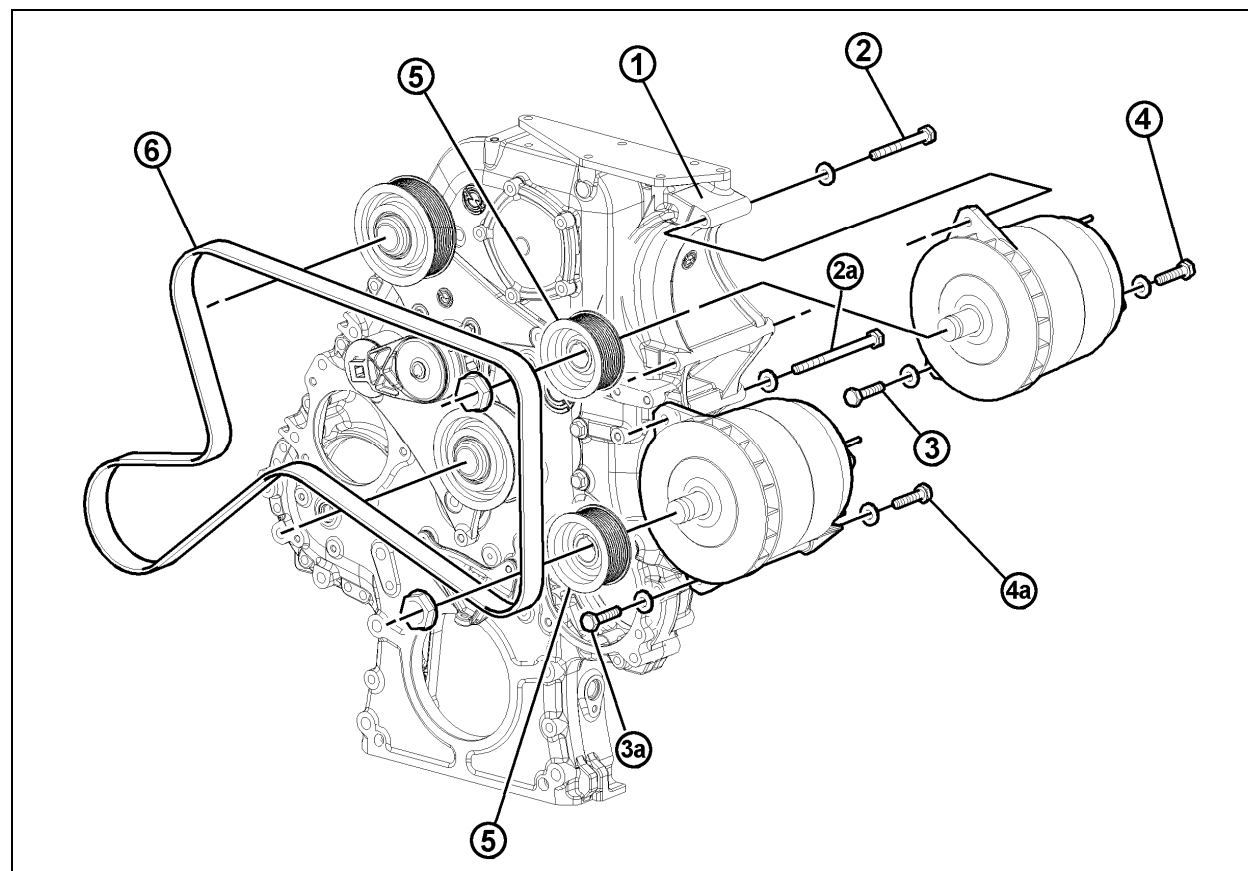
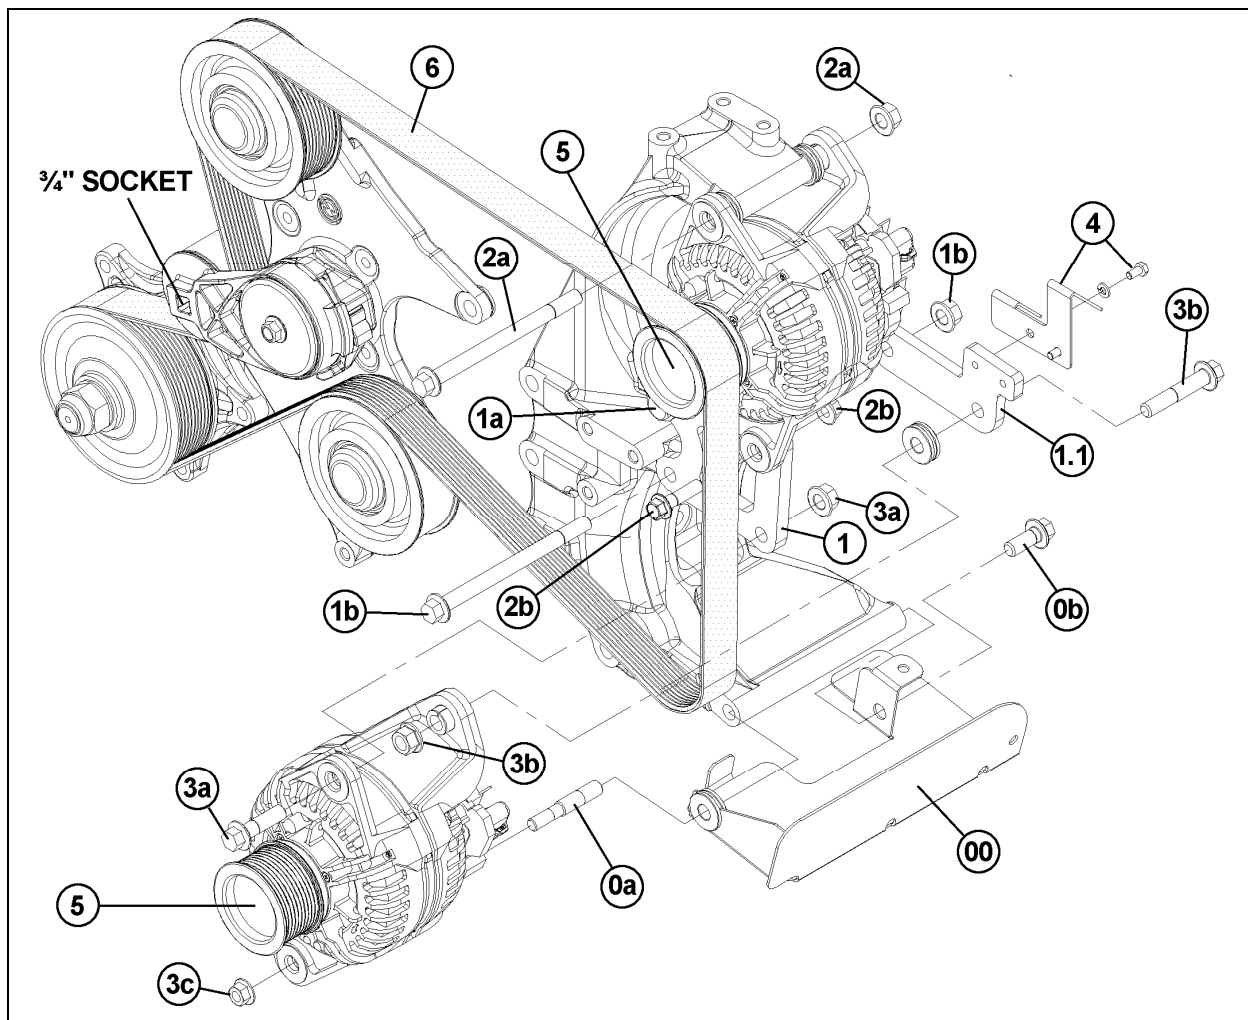

FIGURE 19: TWIN BOSCH ALTERNATORS INSTALLATION WITH DDC SERIES 60 ENGINE (VIP MOTORHOMES)
FIGURE 25: TWIN BOSCH HD10 ALTERNATORS INSTALLATION (H3 SERIES COACHES)
1. Install alternator mounting bracket (1, figure 19) to the gear case. Use the four flanged phosphor alloy bolts on the pulley end of the
2. Bolt the upper alternator to the bracket using the 4 inch bolt at the top (2, fig 19) and two inch bolts at the lower mounting bosses (3 and 4, figure 19). Bolt the other alternator using the 6 inch bolt at the top (2a, fig 19) and two inch bolts at the lower mounting bosses (3a and 4a, figure 19);
3. On the drive shafts of both alternators, install key, pulley, spring washer and nut (5, figure 19);
6. Install alternators belt (6, figure 19).
1. Insert a ¾ inch socket drive into the automatic belt tensioner opening (fig. 19).
1. If necessary, reinstall protector (00, figure 25) to the alternator support assembly. Use the stud (0a, figure 19) and bolt (0b, figure 25) to fix the protector. Use some Loctite 262 red (688910) onto the threads.
2. If removed, reinstall ring bracket (1, figure 19) and L-shaped bracket (1.1, figure 25). Fix the ring bracket using bolt (1a, figure 25) and also bolt and nut (1b, figure 19) for the ring bracket and L-shaped bracket. Use some Loctite 262 red (688910) onto the threads.
3. Mount the upper alternator using bolt and nut (2a, figure 25), and also bolt and nut (2b, figure 25).
4. Mount the lower alternator using bolt and nut (3a, figure 25), and also bolt and nut (3b, figure 25). Fix the lower portion of the alternator using nut (3c, figure 25).
5. Mount the cable bracket (4, figure 25) and fix using bolts (4, figure 25).
6. Mount pulleys (5, figure 25) onto alternators.
7. Install alternators belt (6, figure 25).
4. Insert a $\frac{3}{4}$ " socket drive into the automatic belt tensioner opening (Fig. 25).